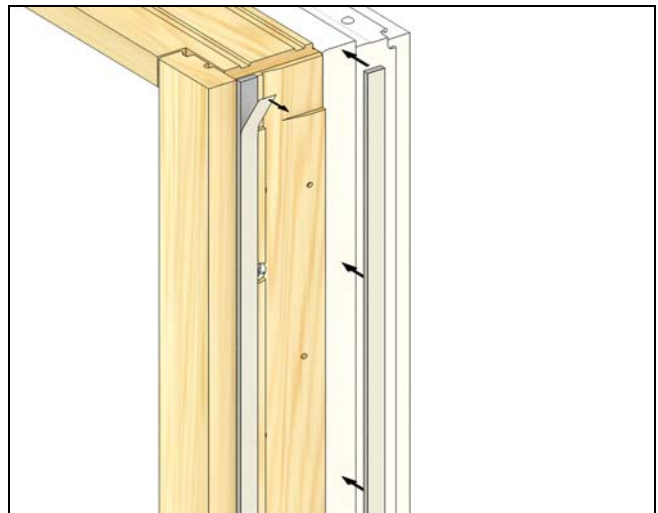

Figure 2
3. Apply mull sealing tape to the full length of one of the jambs where the cladding meets the wood frame member. Apply another length of tape to the wood frame member just behind jamb liner. Remove paper backing from mull tape. See Figure 2.